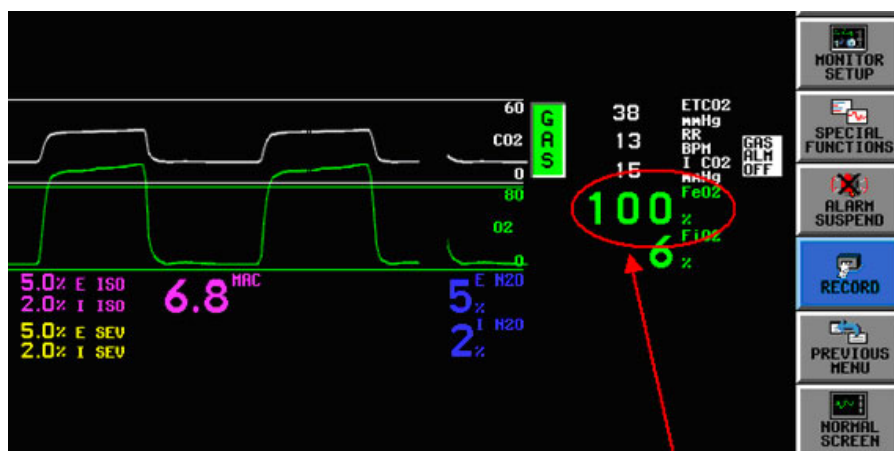

Figure 17-10: Proper display of O₂ numerics upon successful calibration.
- a The O₂ numerics display 100% in the case of gas supply (refer to Figure 17-10).